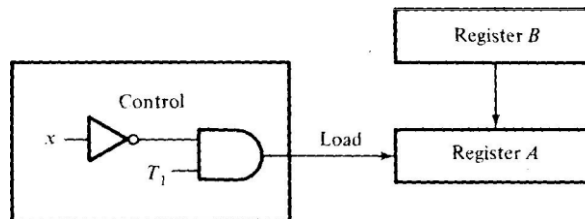

Fig 5.2 Hardware implementation of the statement
- Figure 5.2 shows the implementation of the statement of $A \leftarrow B$.